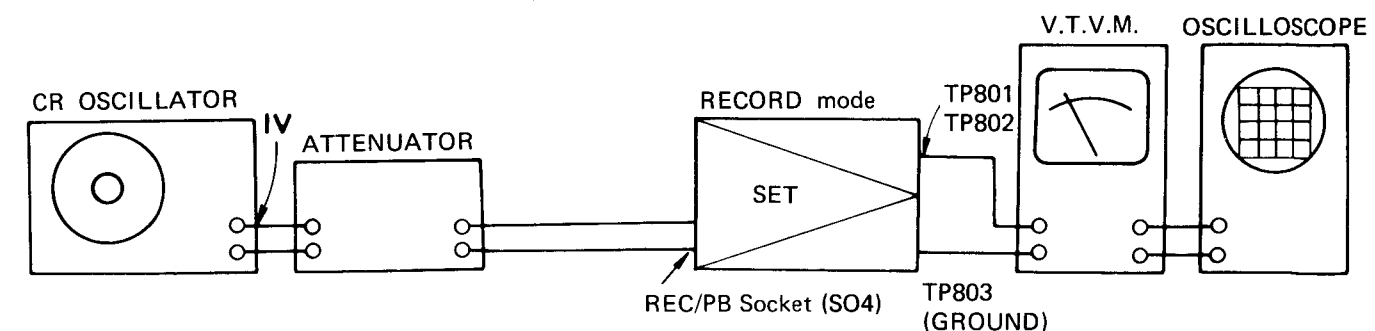

Figure 34
■ DOLBY NOISE REDUCTION CHECK (Refer to Figure 34)